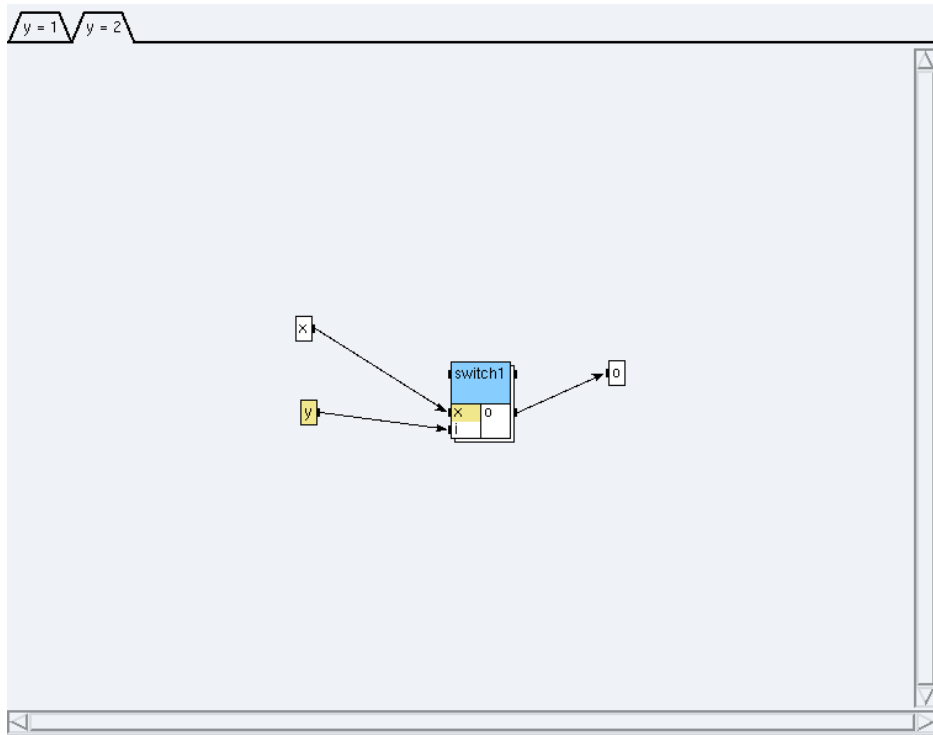

Figure 5.8: Condition  $y=2$
- click on the condition `y=2` (cf. figure 5.8) and create a reference `switch1` to the definition **switch1**;